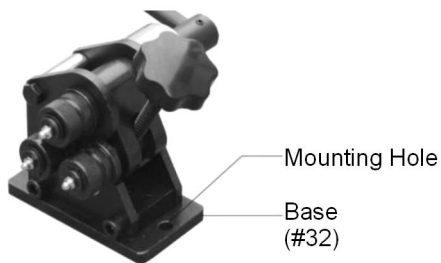

Figure 2
3. Mark the workbench through the two holes in the BASE (#32) of the unit. See Figure 2.